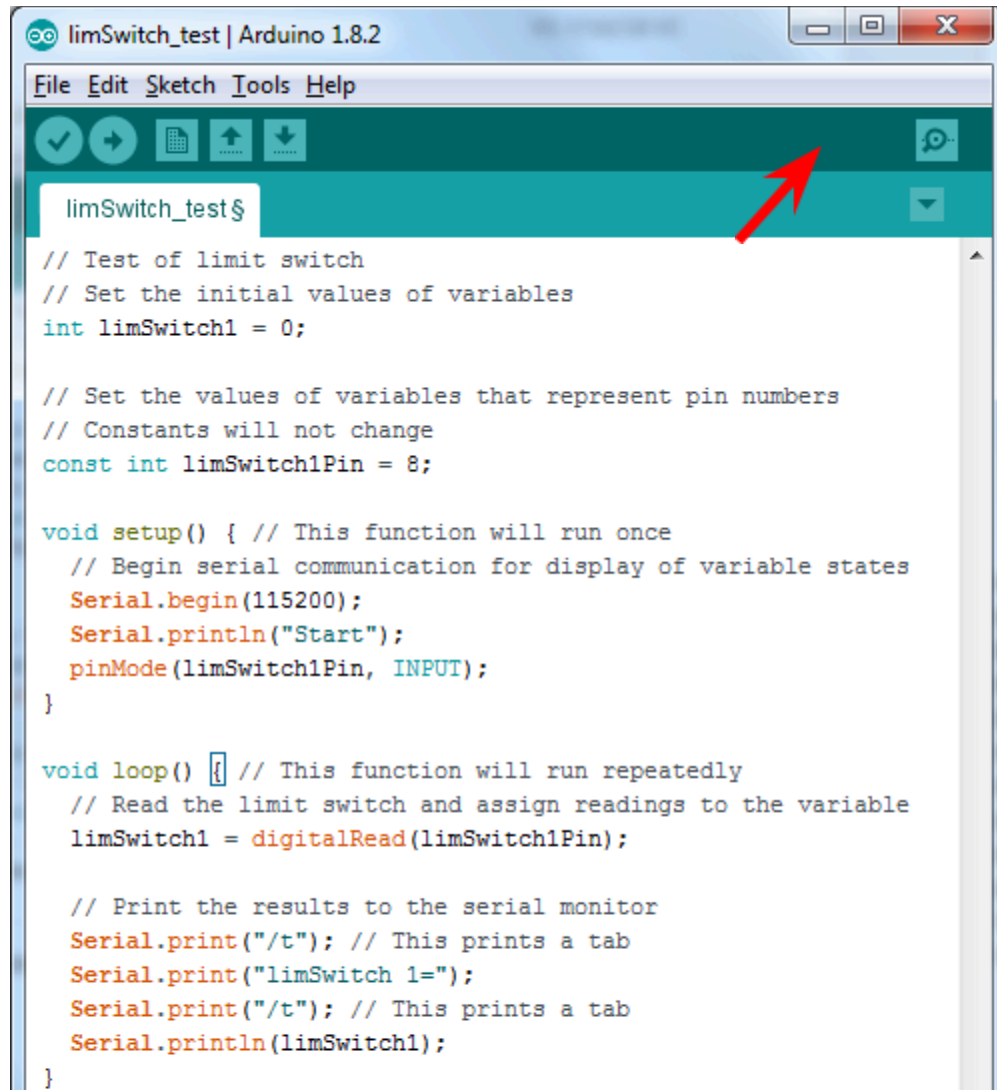

Figure 4: Icon to open the serial monitor window
4. **NOTE: Open the serial monitor (see figure 4 on the next page) only after your sketch has finished uploading**, because when the computer communicates with the Arduino, it also uses serial communication. When you open the serial monitor the program uploaded to the Arduino will restart.
5. Open the serial monitor by clicking on the icon shown in Figure 4 or by using the shortcut keys CTRL+SHIFT+M. See the results as you press the switch. The serial monitor will continuously display the readings from the sensors, as a rolling printout in the window.